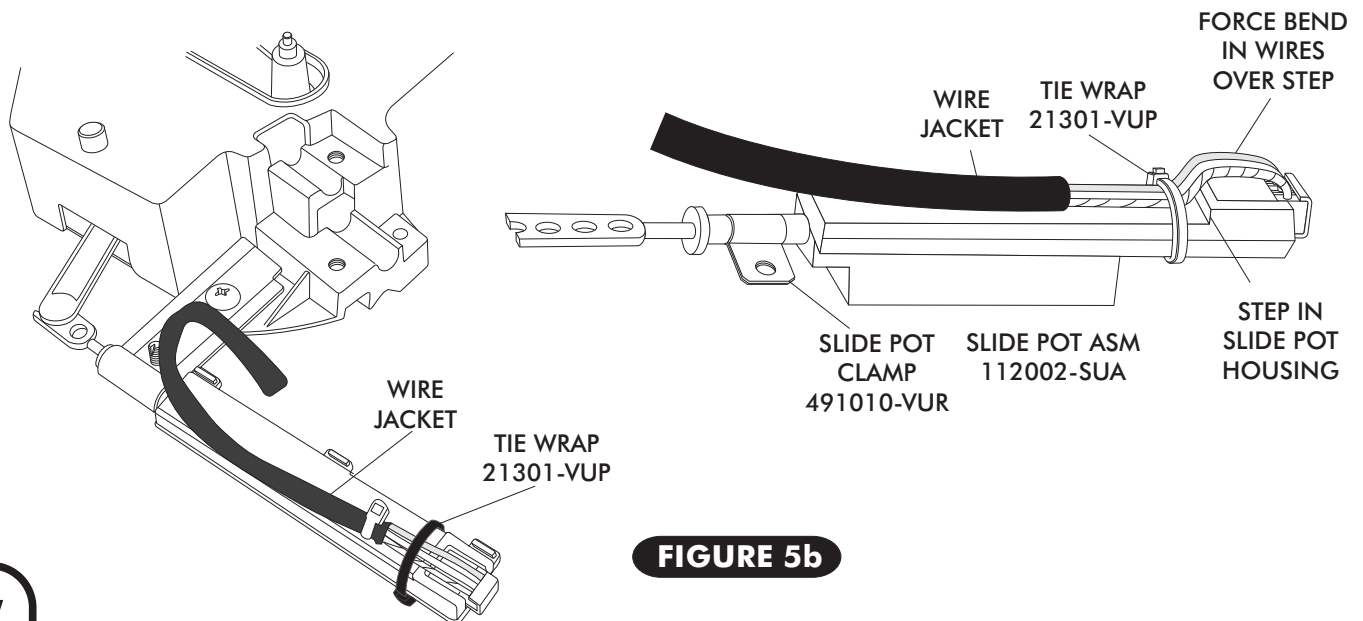

FIGURE 5b
- ONCE WIRES ARE CORRECTLY PLUGGED INTO SLIDE POT ASSEMBLY, SECURE WIRES TO THE SLIDE POT ASSEMBLY USING TIE WRAPS (SUPPLIED). SEE FIGURE 5b BELOW. THE TIE WRAP MUST BE LOCATED BETWEEN THE END OF THE WIRE JACKET AND THE STEP IN THE SLIDE POT HOUSING FORCING A BEND IN EACH WIRE AS THEY PASS OVER THE STEP IN SLIDE POT HOUSING. HEAD OF TIE WRAP MUST FALL ON EDGE OF HOUSING AS SHOWN TO REMAIN TIGHT. ENSURE THAT THE TIE WRAPS ARE SNUG ENOUGH THAT THE WIRES CAN NOT MOVE. SEE FIGURE 5b.